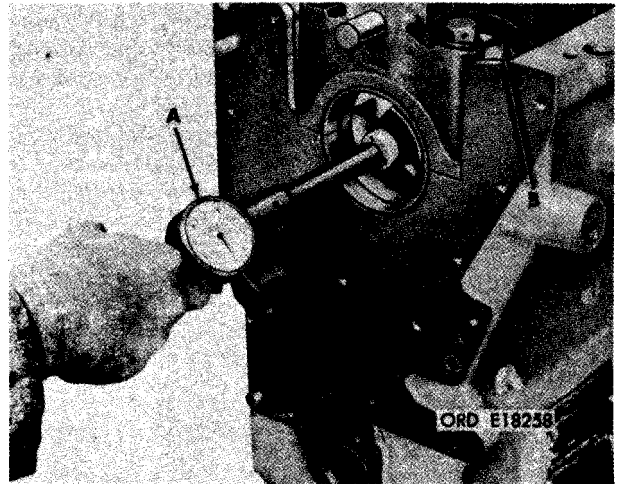

FIGURE 327. CHECKING BEARING BORE WITH SLEEVE BEARING HALVES INSTALLED USING A DIAL INDICATOR.
- (b) Figure 327. (A) Check inside diameter of the main bearings with a dial indicator as shown, and against limits specified in repair and rebuild standards (par. 292). Replace bearing halves not meeting the repair and rebuild requirements. Remove the main bearing caps and bearing halves from the crankcase and check the contact surface as indicated by Prussian blue transfer. Replace bearing halves that do not make 75 percent contact with crankcase bearing bores and recheck new bearings. (B) Check the remaining bearing bores in the same manner.